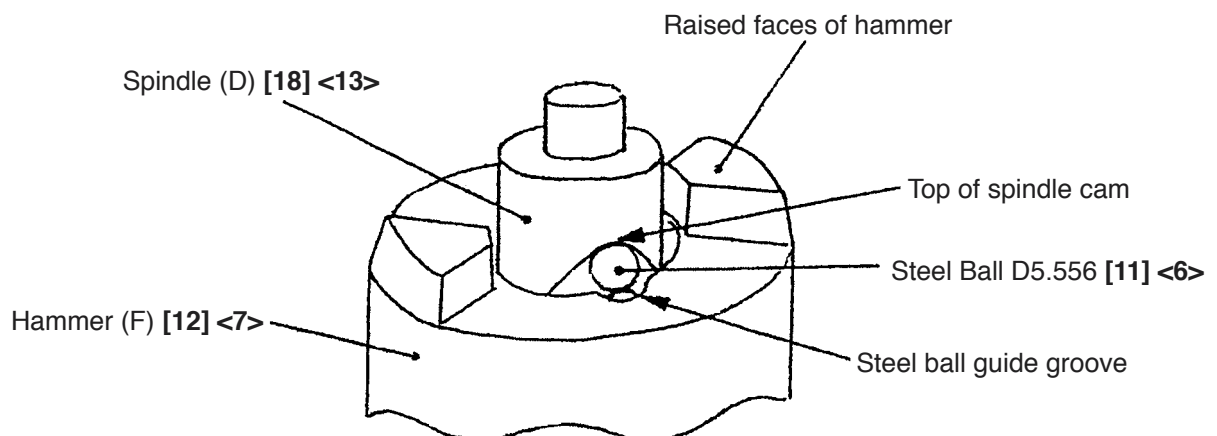

Fig. 9
- (a) Mount Washer (S) [16] <11> onto Spindle (D) [18] <13> and mount the Hammer (F) [12] <7> containing the twenty-eight Steel Balls D3.175 [13] <8>, Washer (J) [14] <9> and Hammer Spring (A) [15] <10> to Spindle (D) [18] <13>.
- (b) Align the top of the cam groove on Spindle (D) [18] <13> with the steel ball guide groove on the Hammer (F) [12] <7> as illustrated in Fig. 9. Press down either of the raised faces of the Hammer (F) [12] <7> with a hand press to compress Hammer Spring (A) [15] <10> until the end surface of the Hammer (F) [12] <7> contacts Spindle (D) [18] <13>.
- (d) Mount the hammer assembly onto the J297 base for washer (S). With a hand press, push down the top of Spindle (D) [18] <13> to compress Hammer Spring (A) [15] <10>. On this condition, mount the Stopper [17] <12> onto the spindle shaft and then release the hand press.